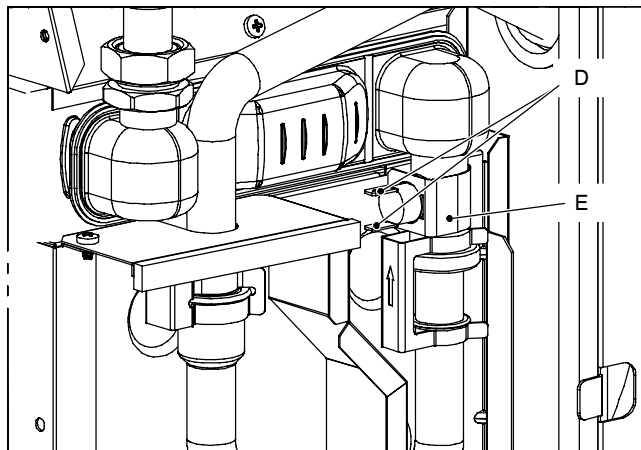

Fig. 86
- 3 Disconnect the wiring *D* (detail in Fig. 86).